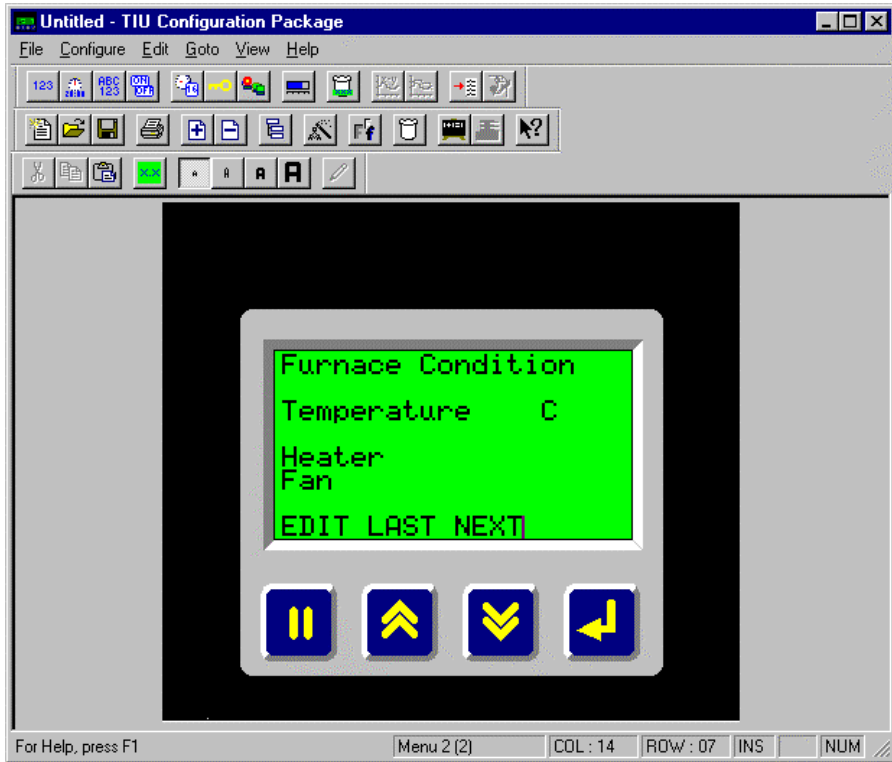

Figure 7.2 – Menu Page 2
1. Enter the text as shown in Figure 7.2.
Example: Continuing from the example in Figure 7.2, one sub-menu is set up for the heater and one for the fan. Each sub-menu sets the temperature (within the furnace) at which the heater or fan turns ON/OFF.